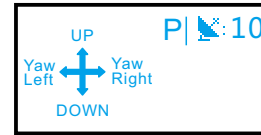

Figure 10-1: Mode 1
① The left joystick displays the functional mode of the remote controller
- Under Mode 1 (See Figure 10-1), the drone can execute commands for ascent, descent, left turn, and right turn.